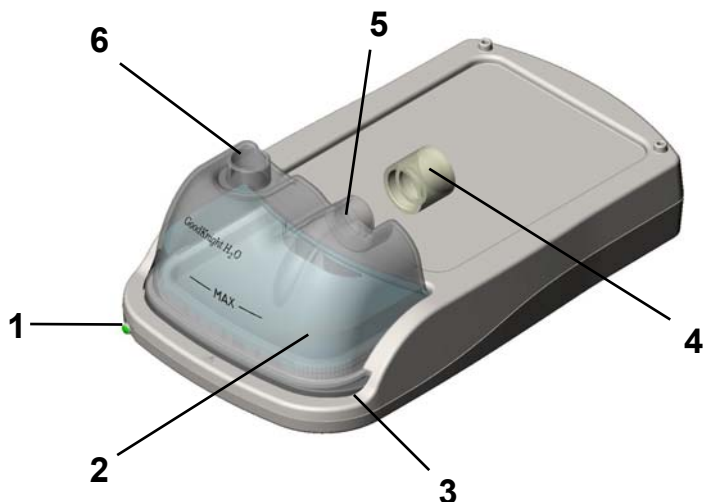

Figure 1 – General view
The elements of the *GoodKnight H₂O* heated humidifier are described in Figures 1 and 2.
2. Carefully fill the water chamber with water through the outlet connector opening (Figure 1, item 6, on page 3). Do not fill past the maximum water level mark.
4. Equip the *GoodKnight 425* or *GoodKnight 420* device with the connection adapter provided with the *GoodKnight H₂O* heated humidifier (reference 4 of Figure 1 – General view on page 3).
6. Replace the water chamber, being careful to avoid spillage, and ensure that the inlet connector of the humidifier (Figure 1, item 5 on page 3) reaches the thrust on the connection adapter (Figure 1, item 4 on page 3).
8. Connect the breathing circuit to the outlet connector of the humidifier (Figure 1, item 6 on page 3) located on the water chamber.